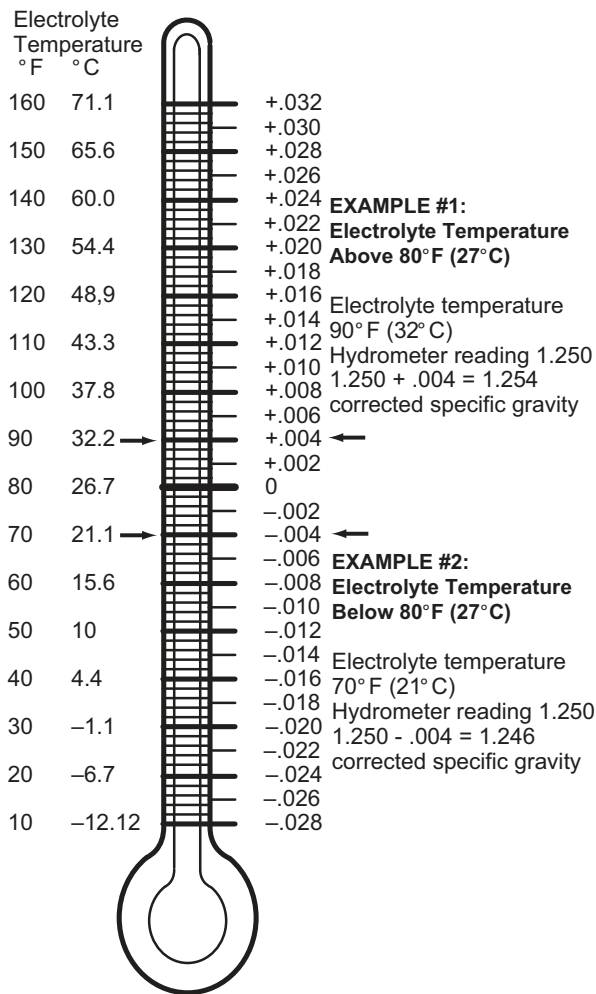

Fig. 10 Hydrometer Temperature Correction
4. Add or subtract four points (.004) to the reading for every 10° F (6° C) the electrolyte temperature is above or below 80° F (27° C). Adjust the reading to conform with the electrolyte temperature, e.g., if the reading indicates a specific gravity of 1.250 and the electrolyte temperature is 90° F (32° C), add four points (.004) to the 1.250 which gives a corrected reading of 1.254. Similarly if the temperature was 70° F (21° C), subtract four points (.004) from the 1.250 to give a corrected reading of 1.246 (Ref. Fig. 10).